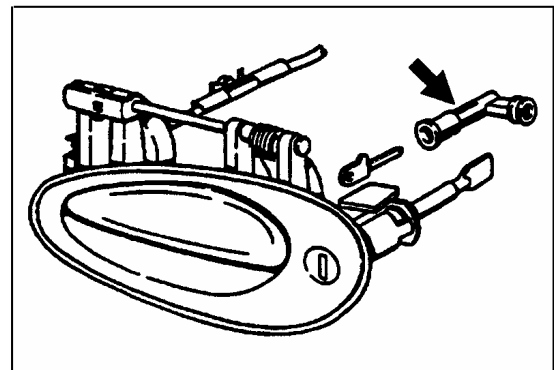

Figure 5
- 9.2 Engage the connecting piece between the door lock and outer door handle (Fig. 5). To do this, clip the actuating shaft of the door handle into the connecting piece. Move the sliding piece outward until it engages securely.